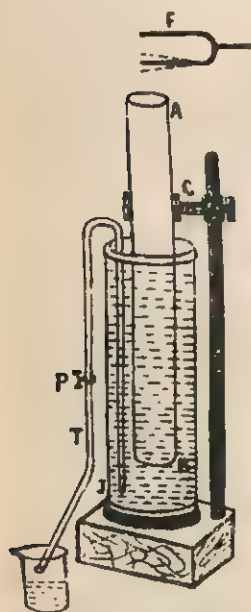

Fig. 5.10. Simple arrangement to determine the velocity of sound.
**Procedure.** (i) Hold the glass tube  $AB$  by the clamp and stand arrangement,  $C$ , such that it dips in water contained in the jar  $J$  as shown in Fig. 5.10.